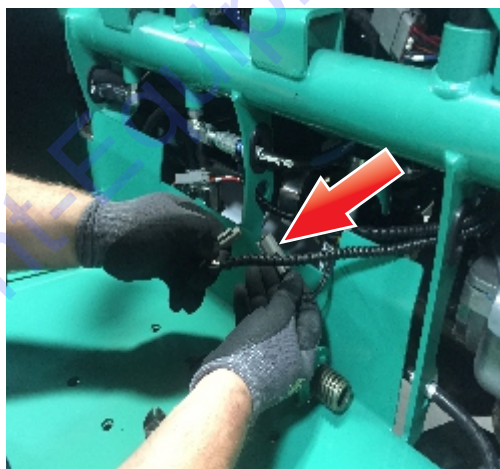

Figure 20. Unplugging Safety Lock Connector
19. Unplug the safety lock-off valve connector (Figure 20).